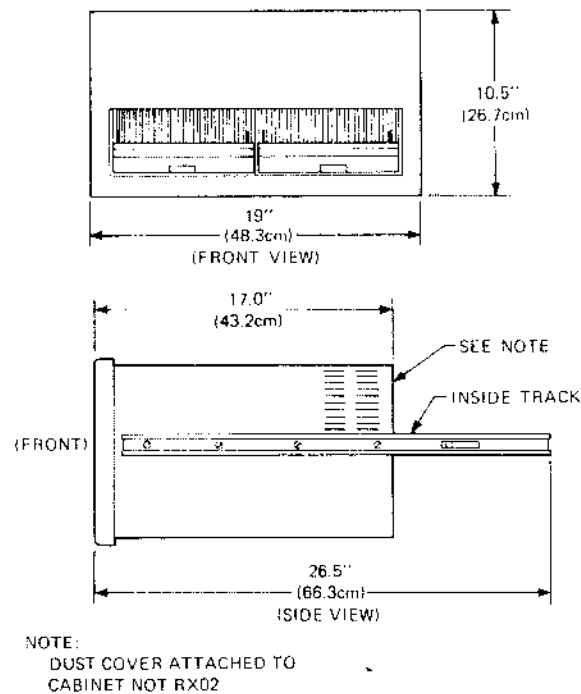

Figure 2-1 RX02 Outline Dimensions
The RX02 is a cabinet-mountable unit that may be installed in a standard Digital Equipment Corporation cabinet. This rack-mountable version is approximately 28 cm high, (10-1/2 inches), 48 cm wide, (19 inches) and 42 cm deep (16-1/2 inches) as shown in Figure 2-1.
4. Attach the inside tracks of the chassis slides provided in the carton to the RX02 (Figure 2-1).